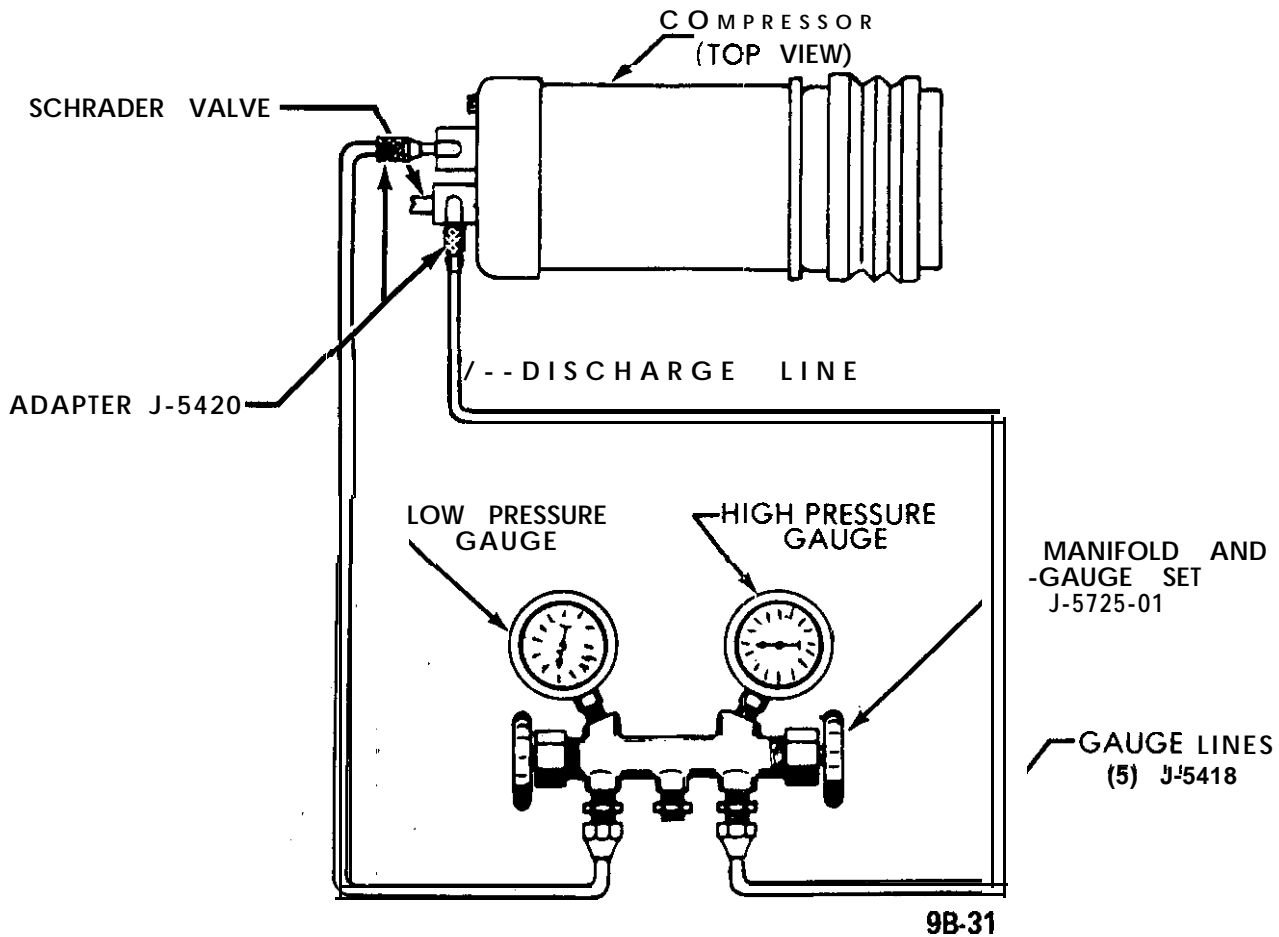

Figure 9B-41 Set-Up For Discharging System
2. With both valves on manifold gauge set (J-5725-04) closed (clockwise), attach manifold to the compressor adapter fitting on the compressor, using J-5420 valve adapter at suction gauge fitting and J-9459 valve adapter at discharge gauge fitting. See Figure 9B-41.